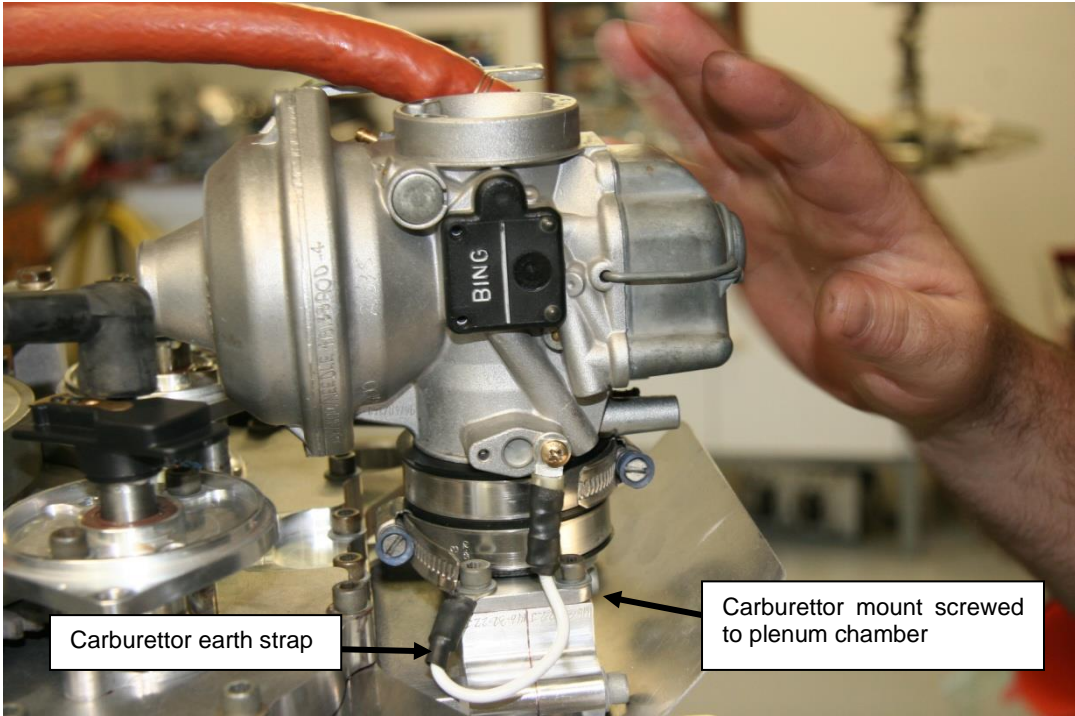

Figure 199 – Fitting Carburettor
- The carburettor mount is sealed to the rear face of the plenum chamber using Loctite 515 and attached using cap screws as shown in Figure 199. Apply Loctite 243 to these screws.